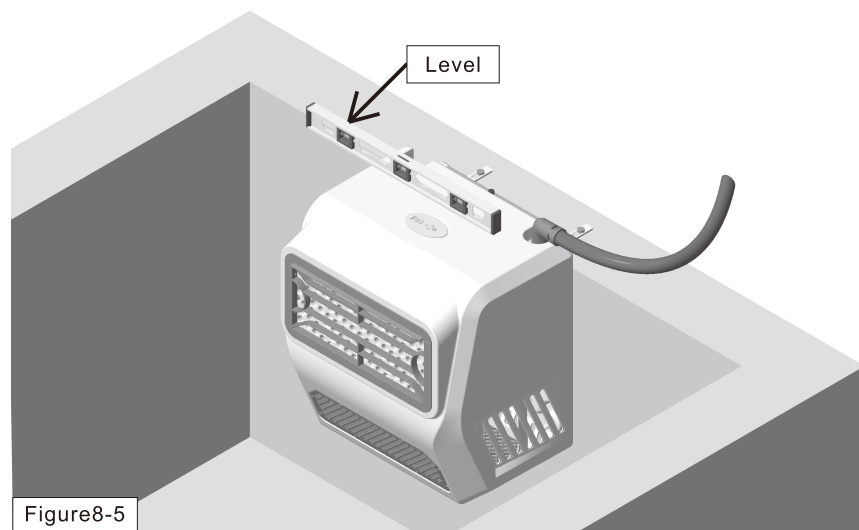

Figure8-5
4.As shown in Figure 8-5, using a level to measure whether the top surface of the unit is horizontal after the supporting screws are close to the pool wall.